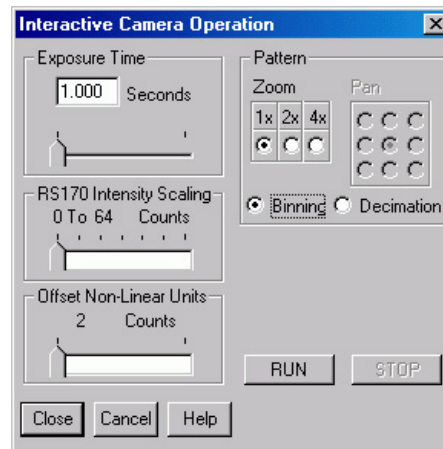

Figure 49. ST-133
2. Select **Video Focus** from the Acquisition Menu. The **Interactive Camera** dialog (Figure 49) will open.